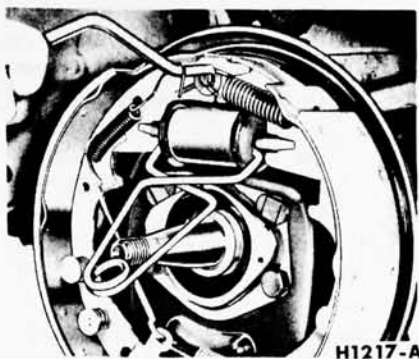

FIG. 10—Retracting Spring Installation
6. Install the secondary shoe to anchor spring (Fig. 10).
8. Install the primary shoe to anchor spring with the tool shown in Fig. 10.